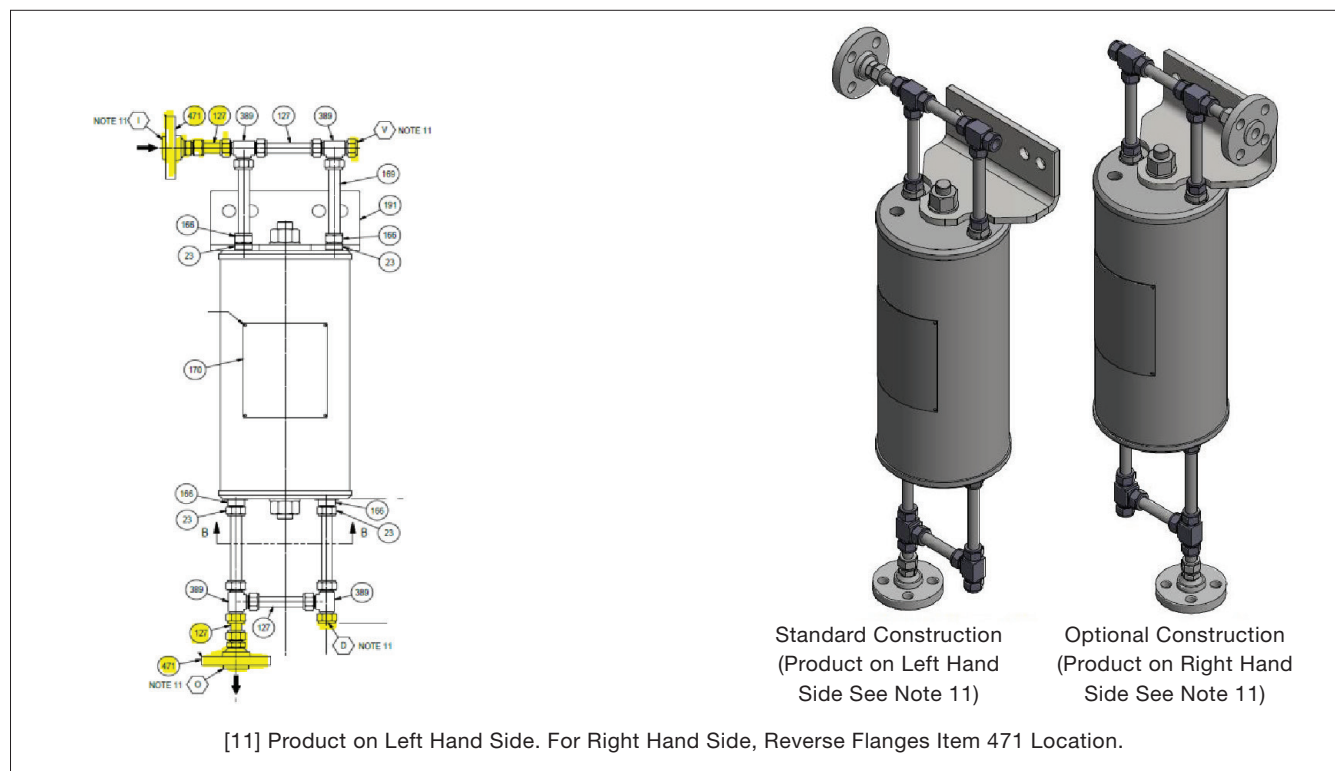

Figure 2: Configuring Process Fluid Flow Direction
**API Plan 21** provides cooling to the seal by flowing pump discharge fluid through a control orifice and into the seal cooler before entering the seal chamber. This piping plan is targeted for clean high temperature fluids and hot water above 176°F (80°C) to improve vapor pressure margin, meet secondary seal element temperature limits, reduce coking, and improve fluid lubricity. Refer to figure 2 in following page.
The 682M and 682H Coolers are assembled with the process fluid flowing from the left side of the cooler to the right side. The flow direction can be customized to flow from the right side of the cooler to the left side, by loosening the flange fitting connections (highlighted in yellow in figure 2) and reversing the tube assembly orientation, as shown in figure 2.